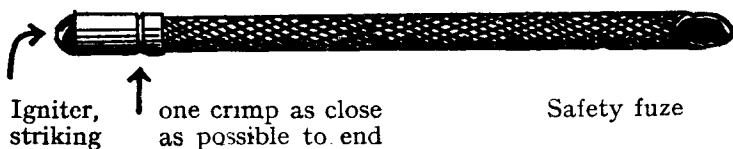

FIG 2.—CRIMPING
- (i) For diagrams showing fuzes, joints, etc, see Figs 2, 3, 4, 5, 6, 7, 8 and 9. Fig 8 shows a new variety of "ring main" where no electrical method of firing is available.